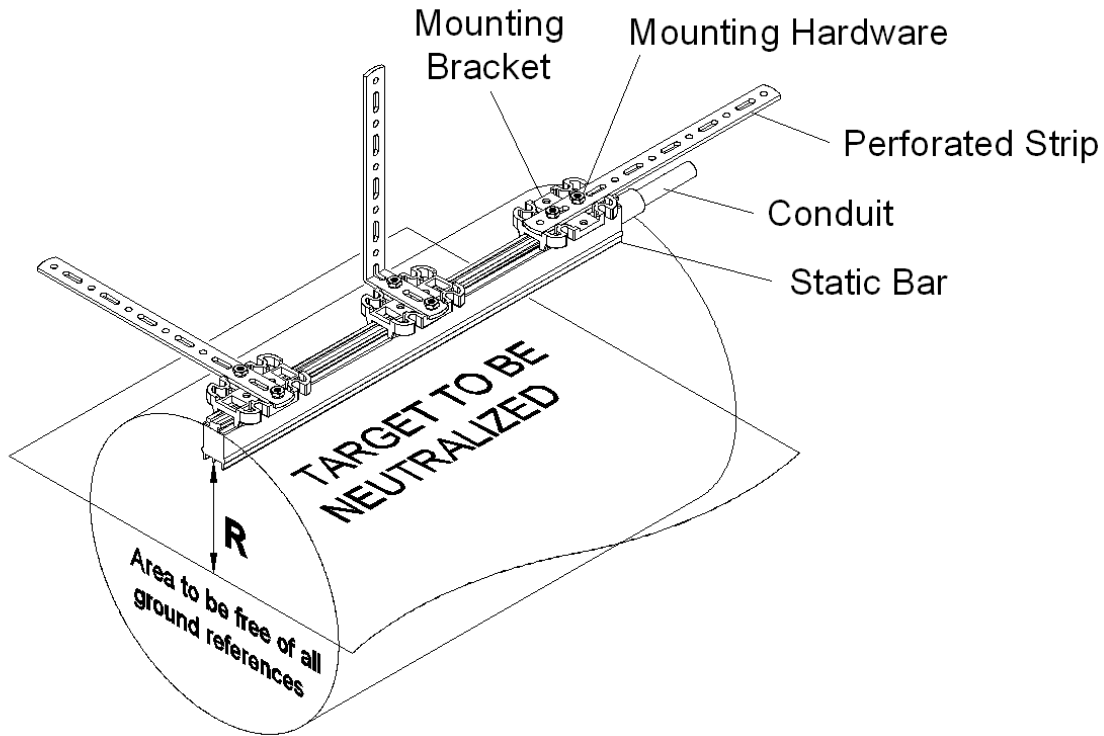

Figure 3. Static Bar Mounting Location
2. The appropriate operating distance. “R” (Figure 3) for the static bar is in part determined by the application: